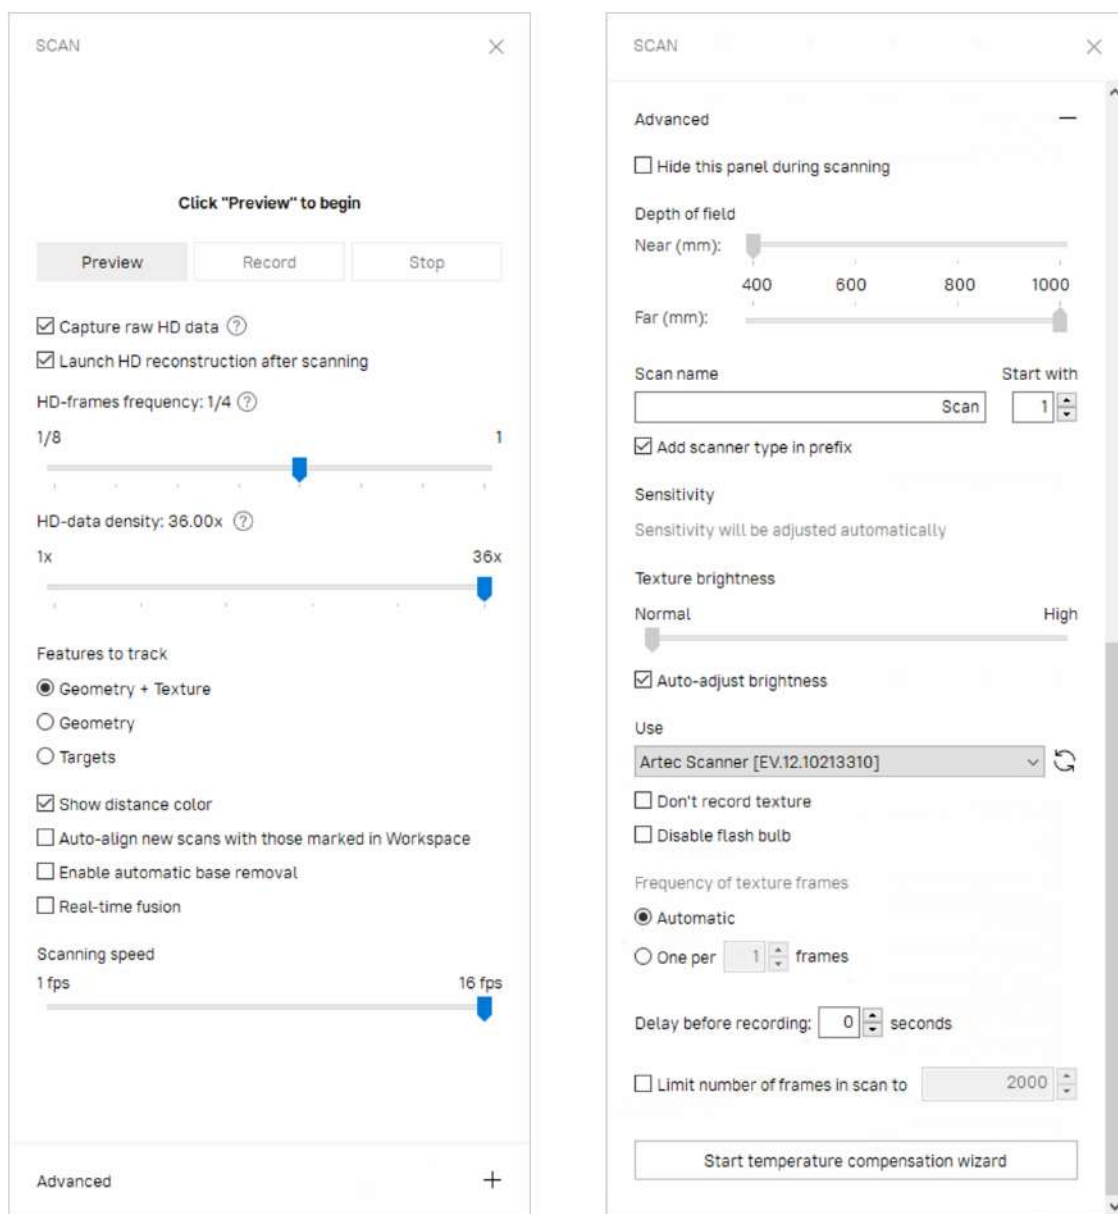

Figure 50: *Scan* panel: *Advanced* section hidden (on the left) and revealed (on the right).
If the scanner connected to your computer supports the HD mode (such as Artec EVA), to enable it, select the *Capture raw HD data* option in the *Scan* panel (Figure 50). Additionally, you can select the *Launch HD reconstruction after scanning* option. The specifics of each of these options are described below.
1. Check the *One per ... frame* radio button (see Figure 50, right).